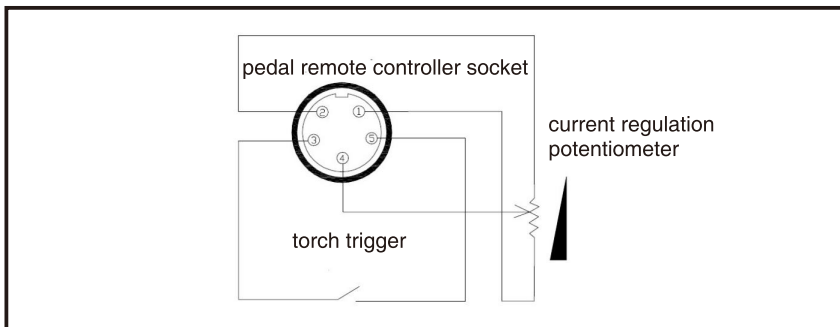

Fig 13.2
- Connect the pedal remoter to the welder front panel pedal controller interface through dedicated cable. See Fig 13.2